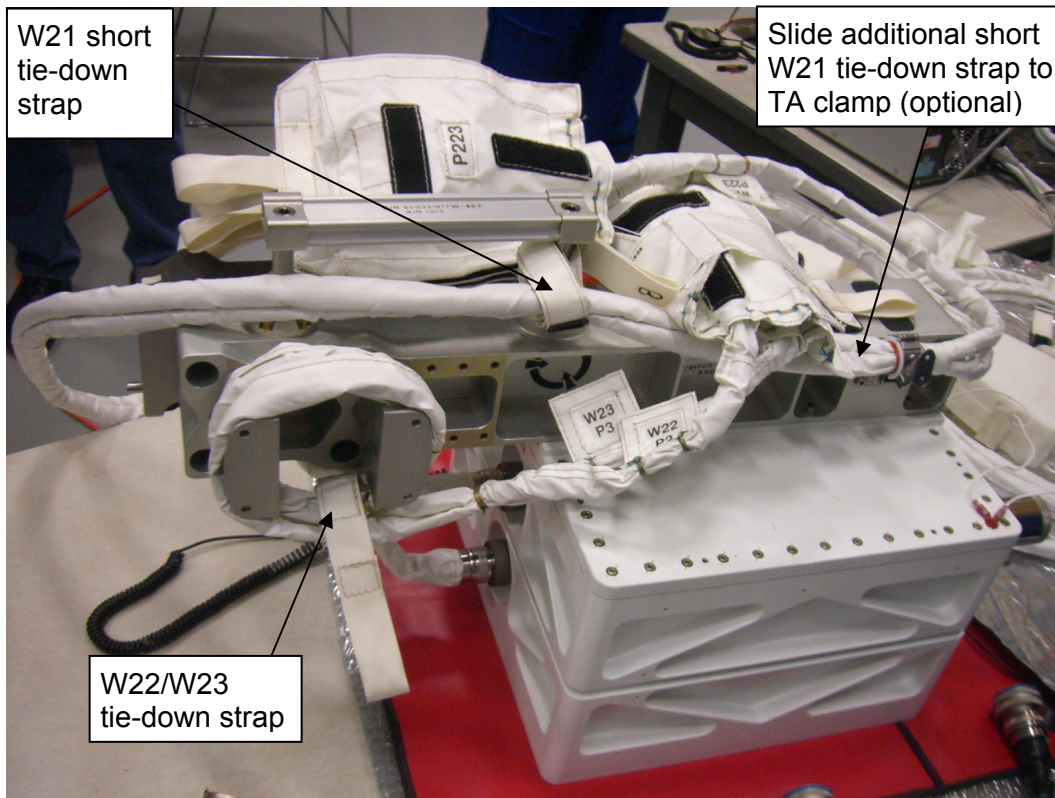

Figure 2 - Avionics Box – Pre-EVA Configuration
- Verify final Avionics box configuration with figure 2